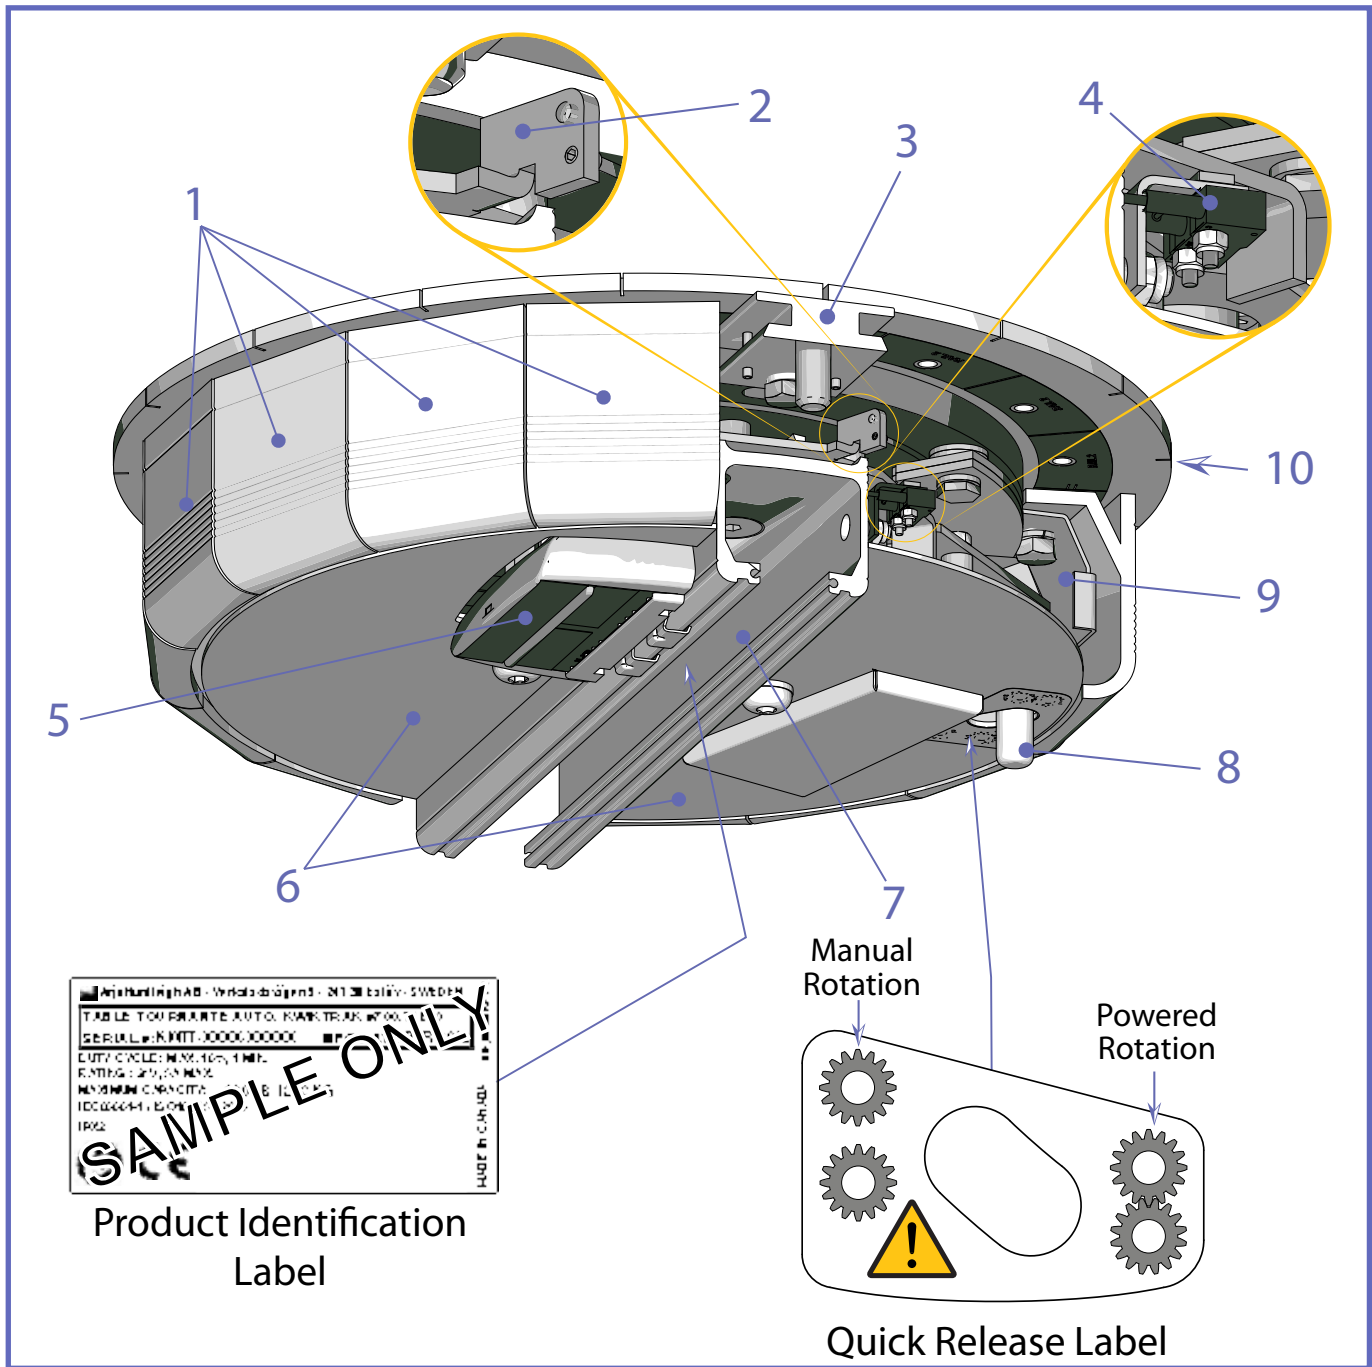

Fig. 1
- 1) Use a rotating laser to align the tracks with the turntable. Use the two alignment marks on the turntable main plate to accomplish with the centre of the tracks, see Fig. 1.